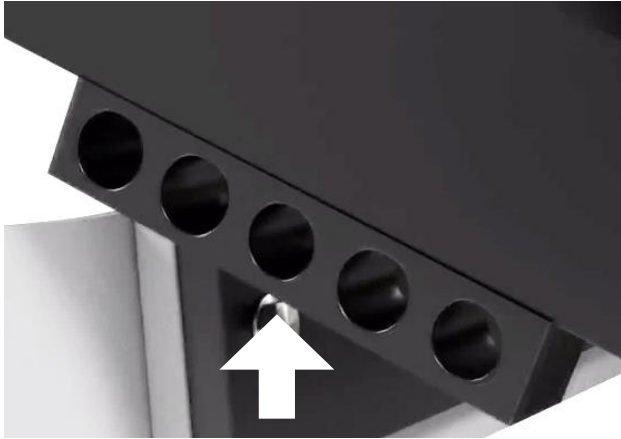

Fig. 1 – Top Link
Step 1 – Attach the tractor to the lower arms indicated by arrow #1 in the picture. There are two connecting holes on the TR3 for the bottom arms of the tractor to attach to. If the TR3 is connected to the bottom holes, then make sure to connect the Top Link in the bottom holes on the mast shown by the arrow labeled #2. If the lower arms of the tractor are connected to the TR3 in the top hole, connect the Top Link using the top hole as well. The Top Link is shown in Fig. 1.
Step 5 – With the TR3 and Tractor on a hard flat surface, and the Scarifiers lifted out of play, adjust the TR3 using the Top Link (shown on page 4 Step 1 Fig 1 above) so that the Leveling Blade and the Finish Rake touch at the same time. Once the Leveling Blade and Finish Rake touch at the same time; lift the TR3 and set it back down. This will ensure that everything is properly adjusted. If Leveling Blade and Finish Rake are not touching at the same time continue to adjust the TR3 using the Top Link until they touch after the TR3 has been lifted and lowered. The TR3 may need to be adjusted multiple times for it to be level. Make sure to raise and lower the TR3 after every adjustment.